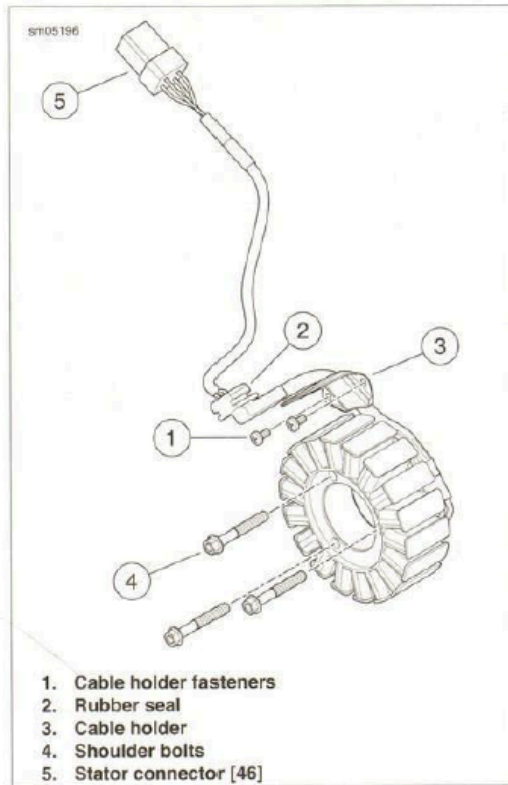

Figure 7-39, Stator Assembly
1. See Figure 7-39. Fill groove of rubber seal (2) with H-D HIGH-PERFORMANCE SEALANT, GRAY (Part No. 99650-02) and slide into groove in the ignition cover.